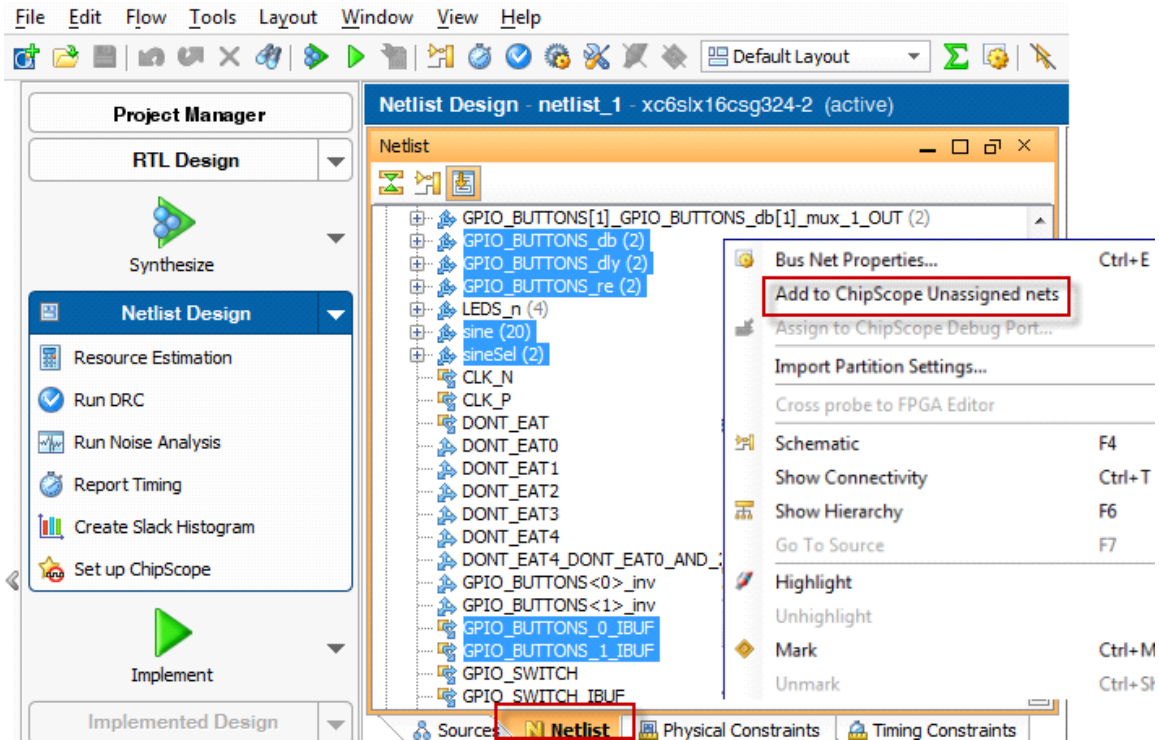

Figure 3: Adding Nets from the Netlist Tab
3. Expand **Nets**. Select the following nets for debugging (also shown in Figure 3):
- GPIO_BUTTONS_db (2)
- GPIO_BUTTONS_dly (2)
- GPIO_BUTTONS_re (2)
- sine (20)
- sineSel (2)
The steps above are illustrated in Figure 3, page 11.